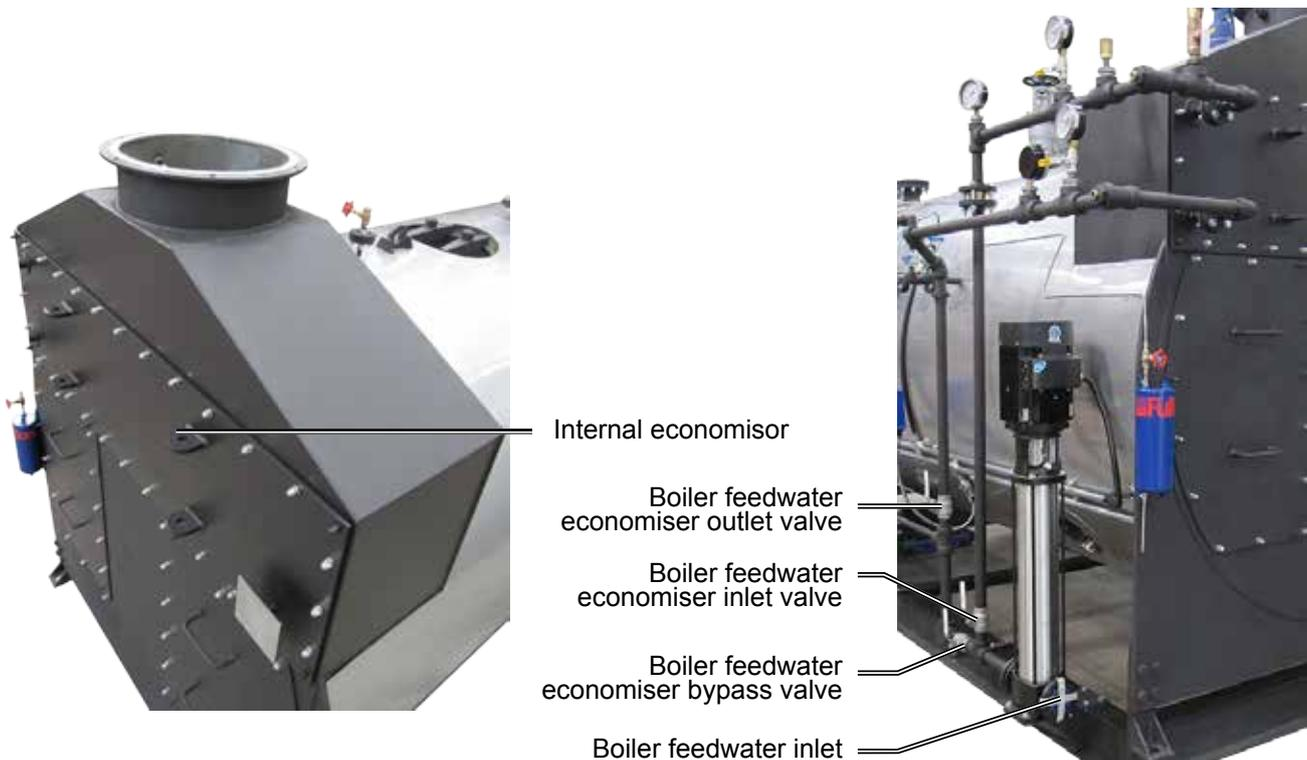

Figure. 17 - Typical Internal Economiser
3. OPEN feedwater valves to the economiser and CLOSE the feedwater bypass valve (where economiser is fitted), see figure **Figure. 17** on page 26.